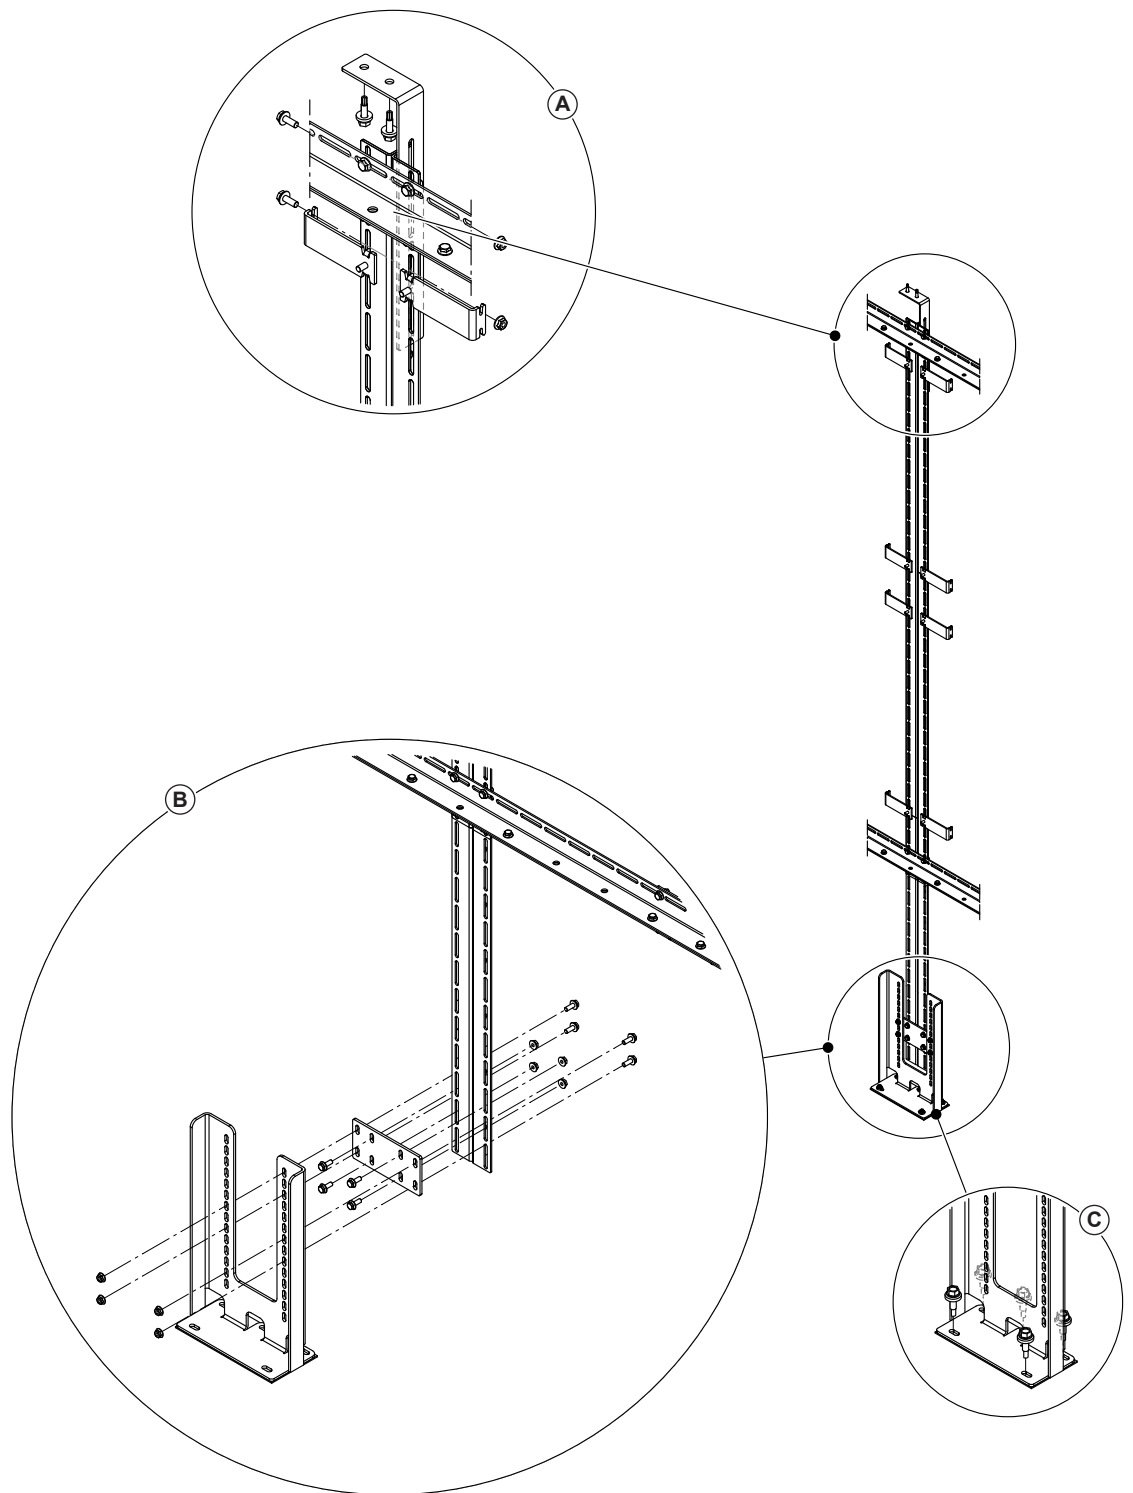

Fig. 29: Mounting the bottom leg support and the angle bracket to the middle vertical support
- If necessary, loosen the two screw connections fixing the angle bracket to the vertical support, push angle bracket to the duct ceiling, then fasten the two screw connections again (see detail A in Fig. 29).
- Fix angle bracket of the vertical support(s) with two self-tapping screws 6.3 x 25 mm to the duct ceiling (see detail A in Fig. 29).
- Fix fastening plate of the leg support at the appropriate position on the lower end to the vertical support with four screws M6 x 16 mm and nuts supplied. Slightly fasten the screw connections only (see detail A in Fig. 29).
- Fix leg support to the fastening plate with four screws M6 x 16 mm and nuts supplied. Slightly fasten the screw connections only (see detail B in Fig. 29).
- Shift the leg support down to the air duct/AHU floor, then fix the leg support to the traverse/tub partitionment with five self-tapping screws 6.3 x 25 mm (see detail C in Fig. 29).